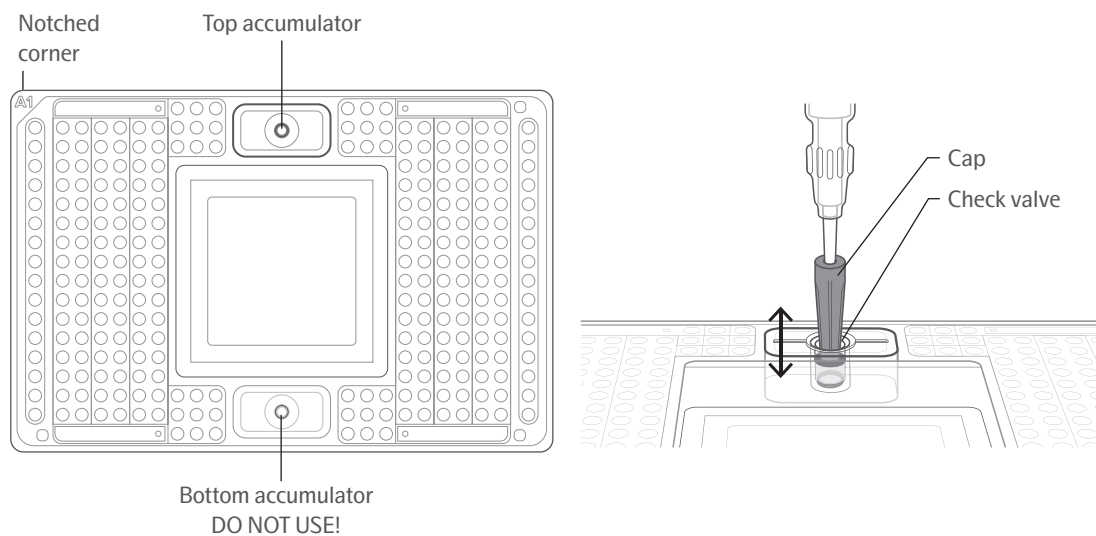

Figure 11. Actuating the check valve in the top accumulator on the 24.192 chip
- b. Use the syringe with the shipping cap to actuate the check valve in the top accumulator with gentle pressure. Ensure that the poppet can move freely up and down (Figure 11).